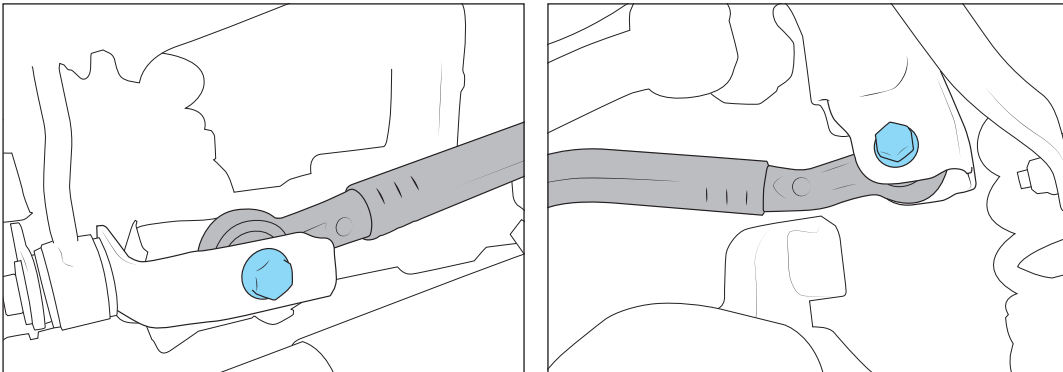

Figure 12: Axle-side (left) Frame-side (right)
3. Loosen but DO NOT remove both track bar bolts (Fig 12).